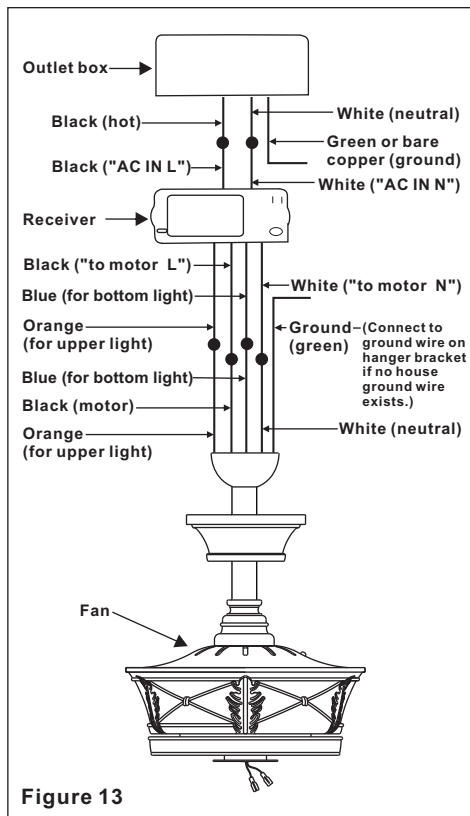

Figure 13
marked "TO MOTOR L" from the Receiver. Connect the BLUE wire from the fan to the BLUE wire marked "For Light" from the Receiver. **NOTE:** If your ceiling fan features an UP Light: Connect the ORANGE wire from the fan to the ORANGE wire marked "For Up Light" from the Receiver. Otherwise disregard this step and proceed to secure all wire connections with the plastic wire nuts provided. (Fig. 13)
**Step 3.** Receiver to House Supply Wires Electrical Connections: Connect the WHITE wire (Neutral) from the outlet box to the WHITE wire marked "AC in N" from the receiver. Connect the BLACK wire (Hot) from the outlet box to the BLACK wire marked "AC in L" from the receiver. Secure all wire connections with the plastic wire nuts provided. (Fig. 13)
**Step 4.** If your outlet box has a GROUND wire (Green or Bare Copper) connect this wire to the Hanger Ball and Hanger Bracket Ground wires. If your outlet box does not have a Ground Wire, then connect the Hanger Ball and Hanger Bracket Ground Wires together. Secure wire connection with the plastic wire nut provided. (Fig. 13)